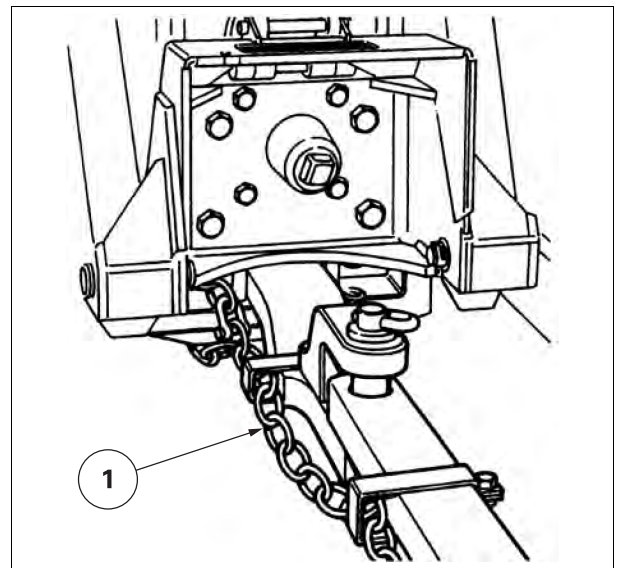

Fig. 9.
- All trailed implements and trailers should be connected to the tractor by a safety chain (1) fig. 9.